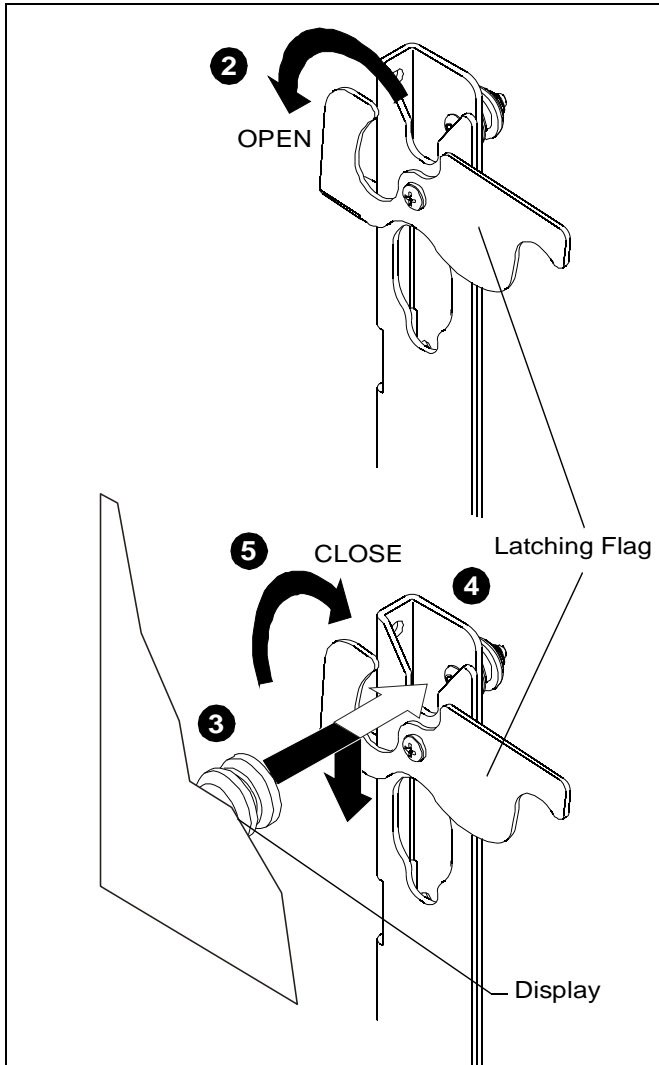

Figure 6
2. Verify latching flag is in the OPEN position. (See Figure 6)
5. Move latching flag to CLOSED position to secure display on accessory. (See Figure 6)